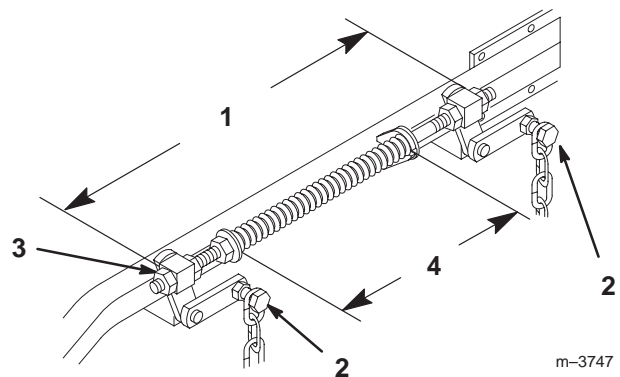

Figure 50
6. Loosen four (4) top chain bolts in slots. Check the length of the rod/swivel assemblies. Distance from outside of rear swivel to outside of front swivel should be 19-7/8" (505 mm) (Fig. 50). Make sure that all four swivels move freely in holes.
8. Lift up on four (4) top chain attachment bolts, in the slots, to take slack out of chains and tighten flange lock nuts. (Deck is still supported by two rear and one front blocks under mower.)
2. Springs are compressed so the distance between the two large washers should be 10-1/4" (260 mm) (Fig. 50).
3. Adjust by turning nut in front of each spring (Fig. 50). Clockwise will shorten spring; counter-clockwise will lengthen spring.